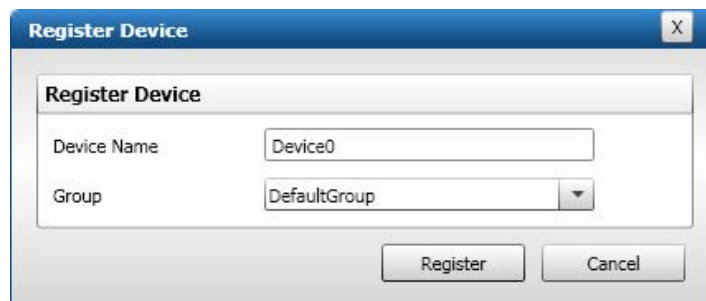

Figure 6-3: Register Device Dialog Box
6. In the list, click the icon of the device you want to register. A Register Device dialog box is displayed (see Figure 6-3).